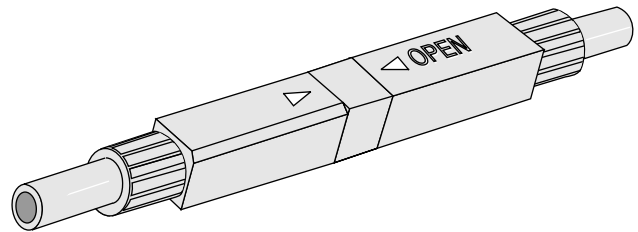

Figure 1
1.1 This procedure outlines the use of the CamSplice™ and TKT-100 Tool Kits for splicing single or multi-mode optical fibers (Figure 1). This document describes and illustrates splicing both loose tube and tight-buffered fibers with the CamSplice™ Mechanical Splicer.